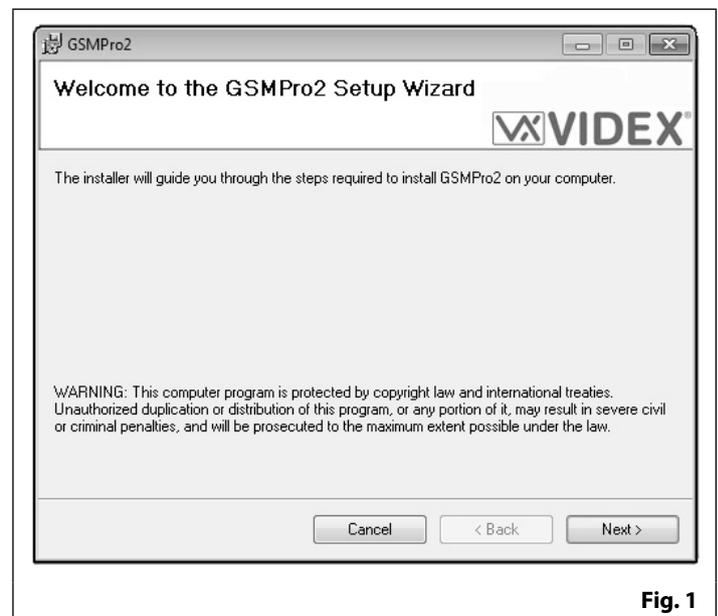

Fig. 1
4. After a brief period the GSMSK setup wizard window will appear, as shown in **Fig. 1**;